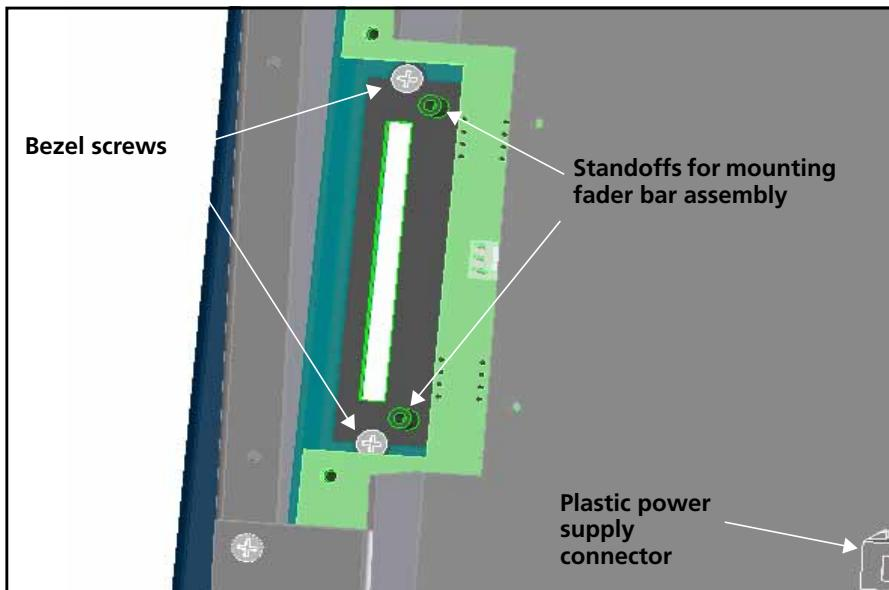

Figure 2-48 Securing the New Bezel
- 3 Inside the panel (as shown in Figure 2-48 on page 50), remove the two screws that secure the existing plastic bezel, retaining the screws for future use.
- 2 Turn the panel back over to reveal its underside, and then, using the original bezel screws, secure the new fader bar bezel (see Figure 2-48).